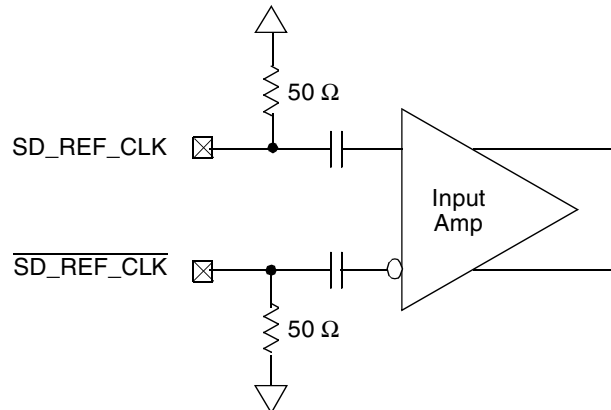

Figure 51. Receiver of SerDes Reference Clocks
Figure 51 shows a receiver reference diagram of the SerDes reference clocks.
- The $\overline{SD_REF_CLK}$ and SD_REF_CLK are internally AC-coupled differential inputs as shown in Figure 51. Each differential clock input ($\overline{SD_REF_CLK}$ or SD_REF_CLK) has on-chip 50- Ω termination to $SGND_SRDSn$ (xcorevss) followed by on-chip AC-coupling.